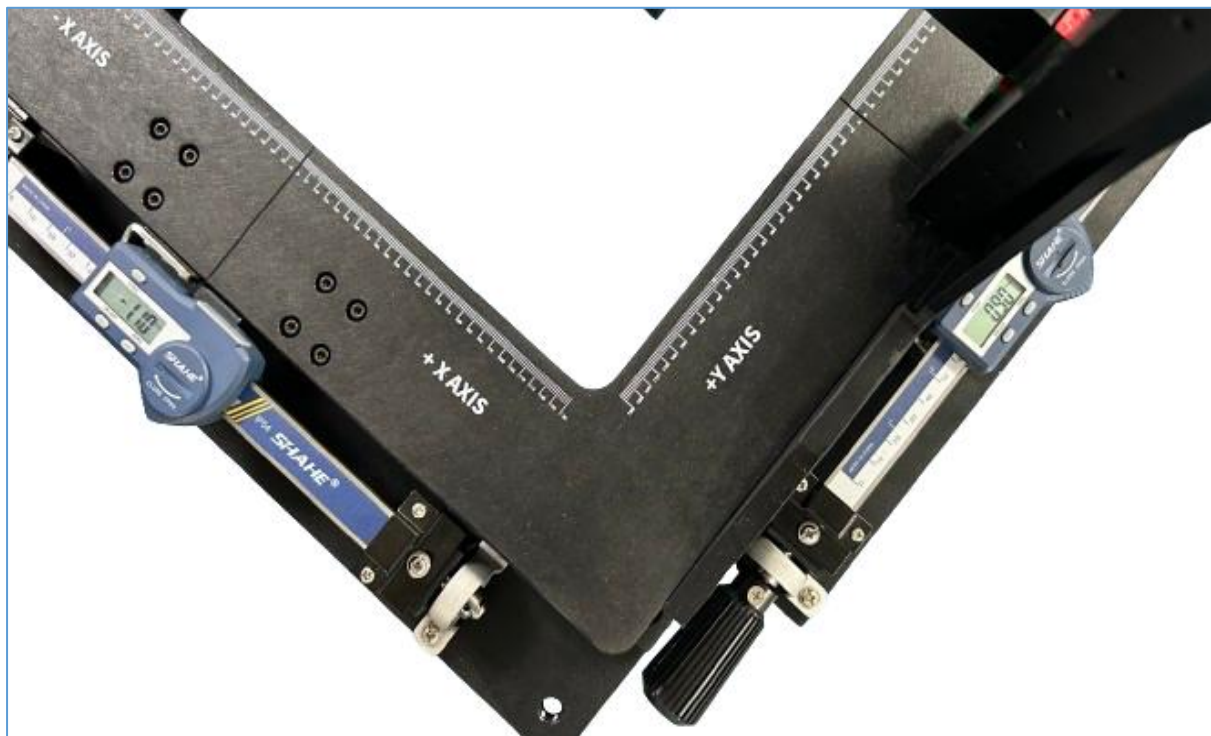

FIGURE 2.18: RESET X- AND Y-AXIS TO ZERO IN POSITIONING TOOL
- After obtaining the final optimum coil position of the X-axis and Y-axis, reset both the X- and Y-axis to zero as the optimum position in the positioning tool as shown in Figure 2.18 below.